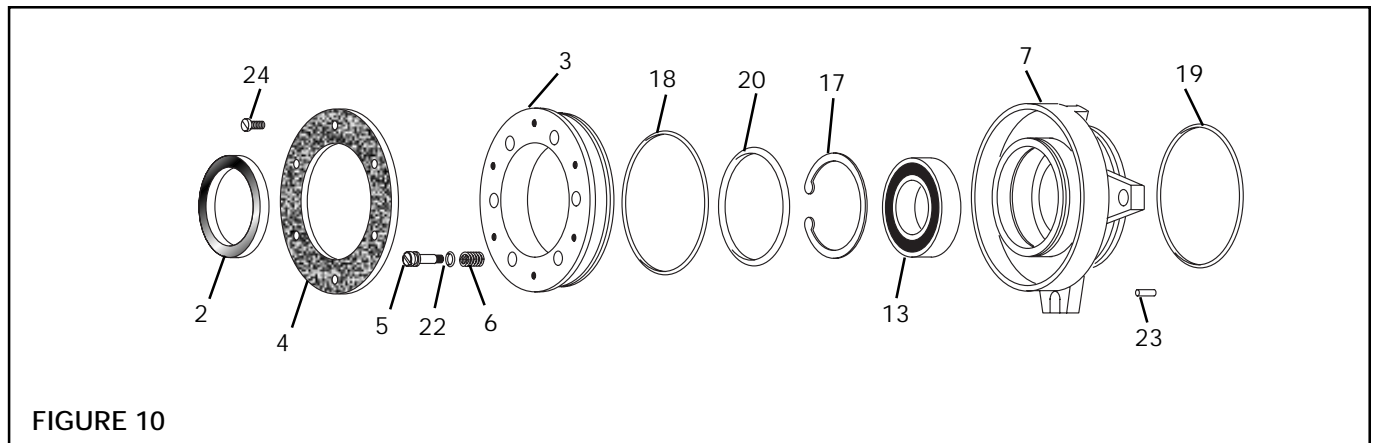

FIGURE 10
1. Remove the old Machine Screws (Item 24) and Friction Facing (Item 4) (See Figure 10).
2. Remove the old Shoulder Bolts (Item 5) and Compression Springs (Item 6) (See Figure 10).
3. Separate the Air Chamber-Piston (Item 7) and Piston (Item 3) (See Figure 10).
4. Remove the Retaining Ring (Item 17) (See Figure 10).
5. Press the old Bearing (Item 13) out of the Air Chamber-Piston (Item 7) (See Figure 10).
6. Clean the bearing bore of the Air Chamber-Piston (Item 7) with fresh safety solvent, making sure all old Loctite® residue is removed (See Figure 10).
7. Apply an adequate amount of Loctite® 680 to evenly coat the outer race of new Bearing (Item 13) (See Figure 10).
8. Carefully align the O.D. of the new Bearing with the bore of the Air Chamber-Piston (Item 7) and press the new Bearing into place (See Figure 10).
9. Reinstall the Retaining Ring (Item 17) (See Figure 10).
13. Align the Spring Pin (Item 23) with the hole in the Air Chamber (Item 8) and press the Air Chamber-Piston (Item 7) into the Air Chamber (Item 8) (See Figure 10).
14. Press the Piston (Item 3) into the Air Chamber-Piston (Item 7) (See Figure 10).
15. Apply Loctite® 242 or equivalent to the Shoulder Bolts; then, reinstall the Compression Springs (Item 6), new Shoulder Bolts (Item 5), and new Shoulder Bolt O-rings (Item 22) (See Figure 10).
19. Press the new Shaft Seal (Item 2) into the Air Chamber (Item 3) (See Figure 10).